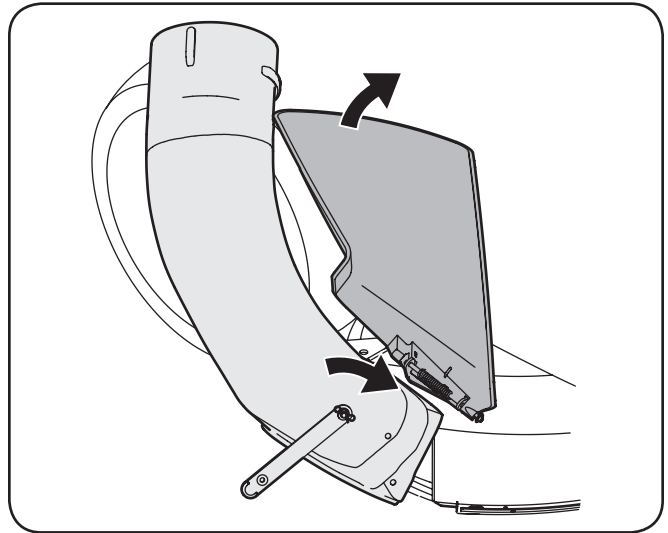

Figure 4-22
- With the tractor's discharge chute raised up and held open, install the chute elbow over the chute opening by placing the top, rear edge of the chute elbow over the rear of the deck opening, then pivoting the chute elbow down and over the chute opening. See Figure 4-22.